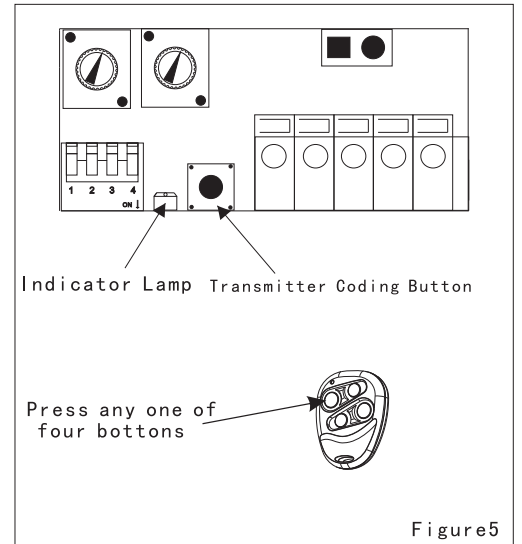

Figure 5
8. PROGRAM THE TRANSMITTER INTO THE OPENER (see Figure5)
- Press the Transmitter Coding Button (C) ONCE and the Coding Indicator Lamp switches on (see Figure 5);